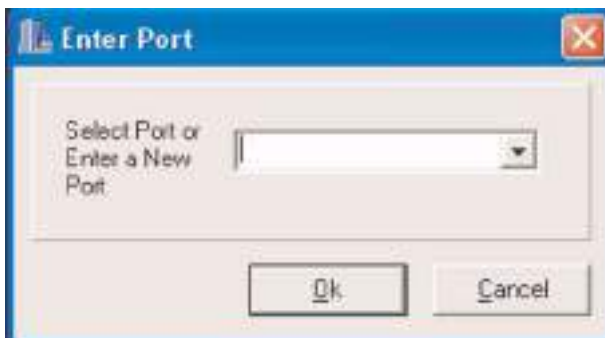

Fig 124.
- 4 To add a new communication port to the list click "Add". Enter the new port number as required. ⇒ Fig 124. \(□ C-138\)